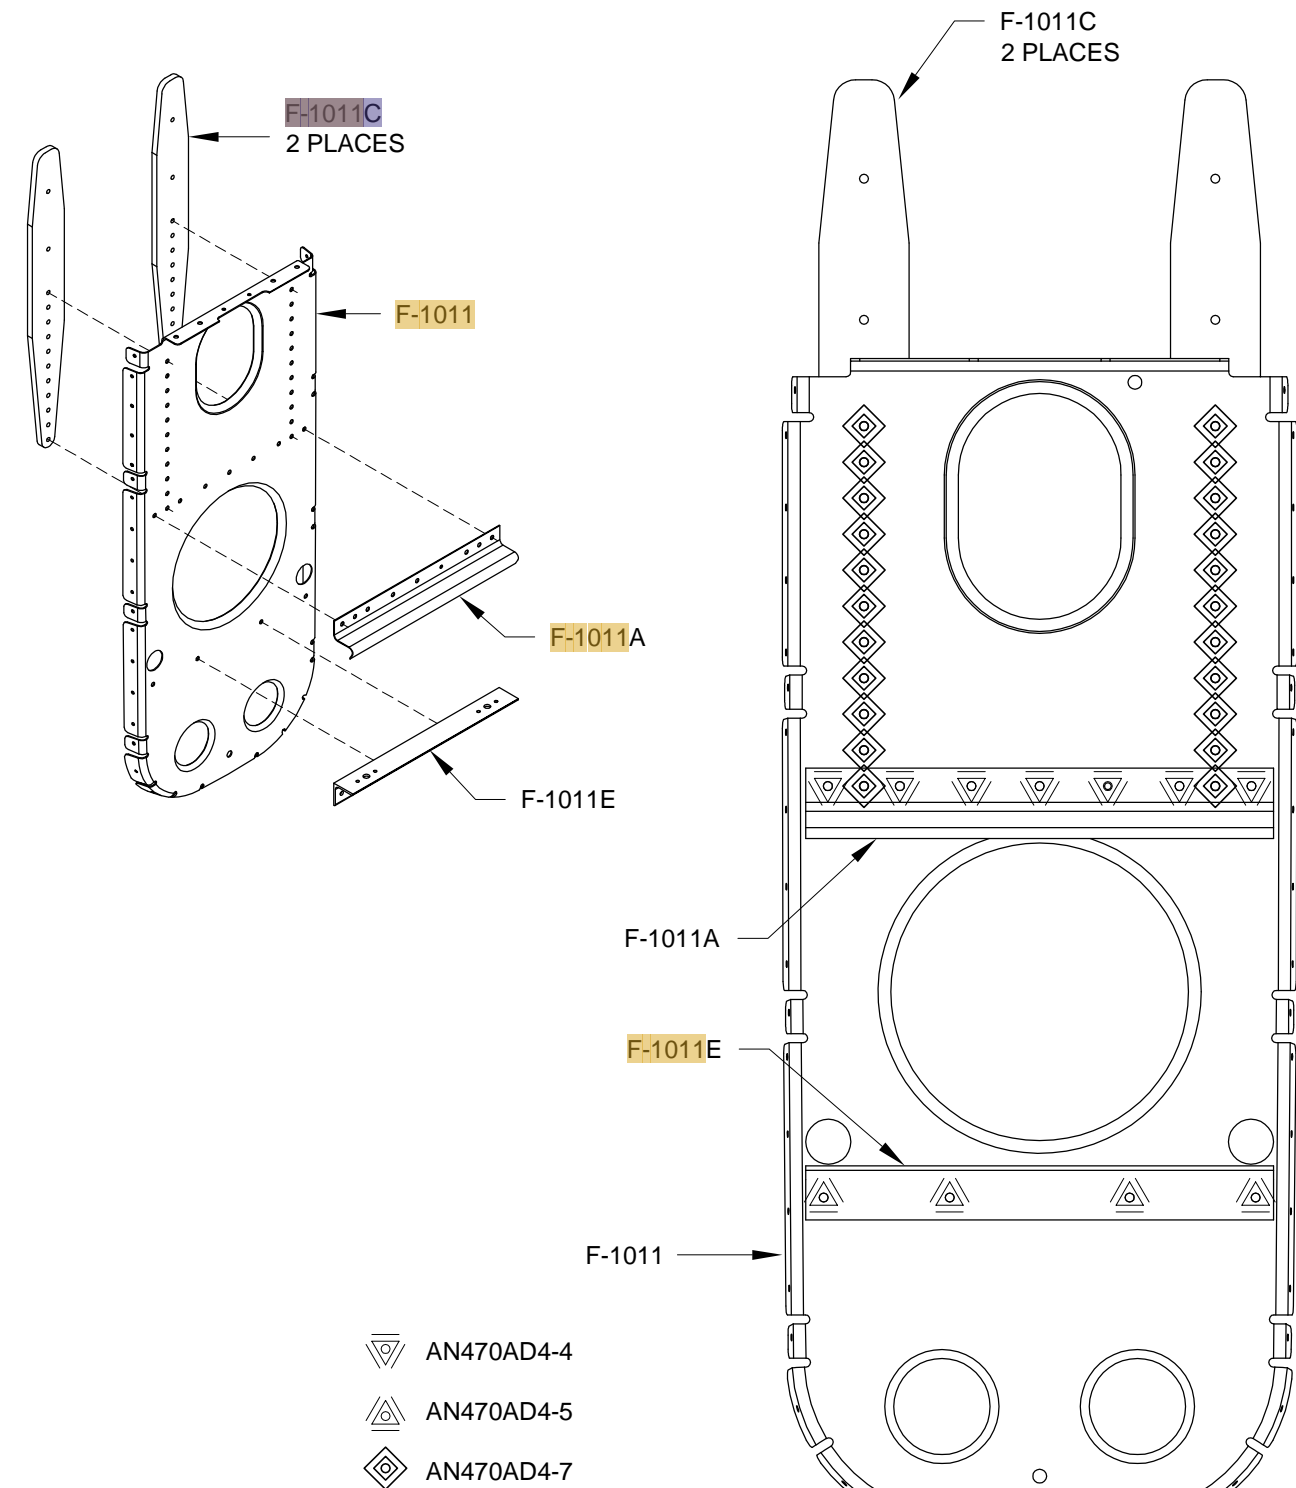

FIGURE 2: RIVETING THE F-1011 BULKHEAD AND PARTS
Step 2: Rivet the F-1011 Bulkhead, the F-1011A Bulkhead Stiffener, the F-1011C Horizontal Stabilizer Attachment Bars, and the F-1011E Rudder Cable Angle using the rivets called out in Figure 2.